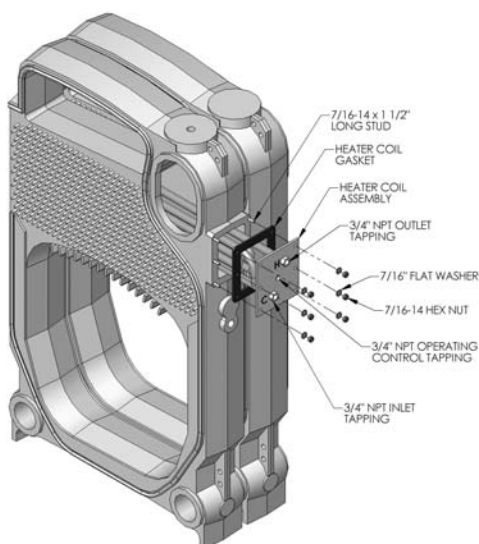

Figure 3.10: Tankless Heater Coil Installation
3. Install 7/16" x 1-1/2" studs in the screw seats around the heater opening as shown in Figure 3.10.